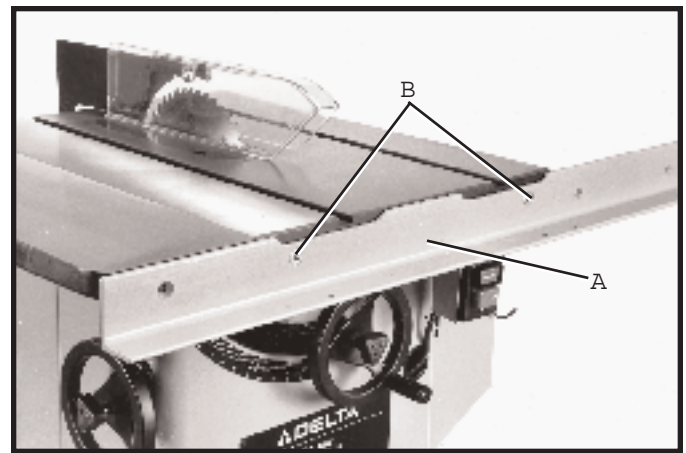

Fig. 5
2. Assemble the front rail (A) Fig. 5, to front of saw table using the two 3/8-16 x 1-1/4 long flat head Phillips screws (B), 7/8 flat washers, lock washers and 3/8-16 hex nuts supplied. Screws (B) are inserted through the two holes in the front rail, as shown and through the two through holes in the front of the saw table and fastened to the table with the flat washers, lockwashers and hex nuts IMPORTANT: Do not completely tighten front rail mounting hardware at this time.